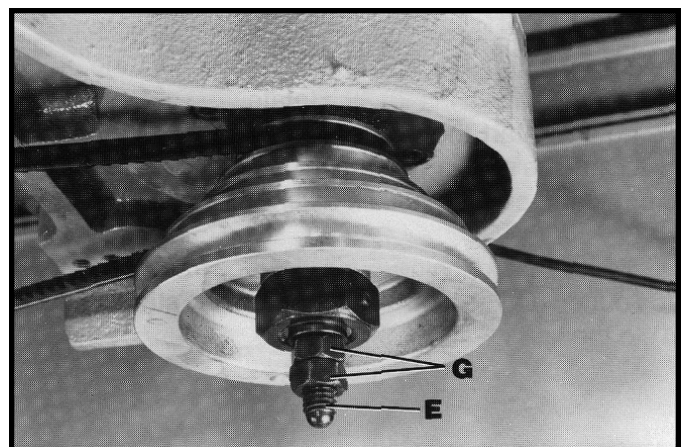

Fig. 35
9. Assemble and securely tighten the two lock nuts (G) Fig. 35, as shown. The two lock nuts (G) were removed from the draw bar (E) in STEP 4.